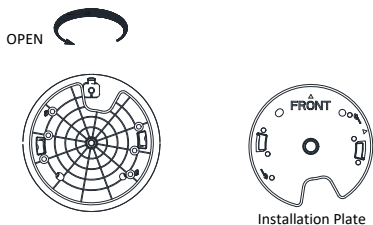

Figure 2-18 Remove the Installation Plate
1. Rotate the installation plate anticlockwise, and remove the installation plate, as shown in Figure 2-18.